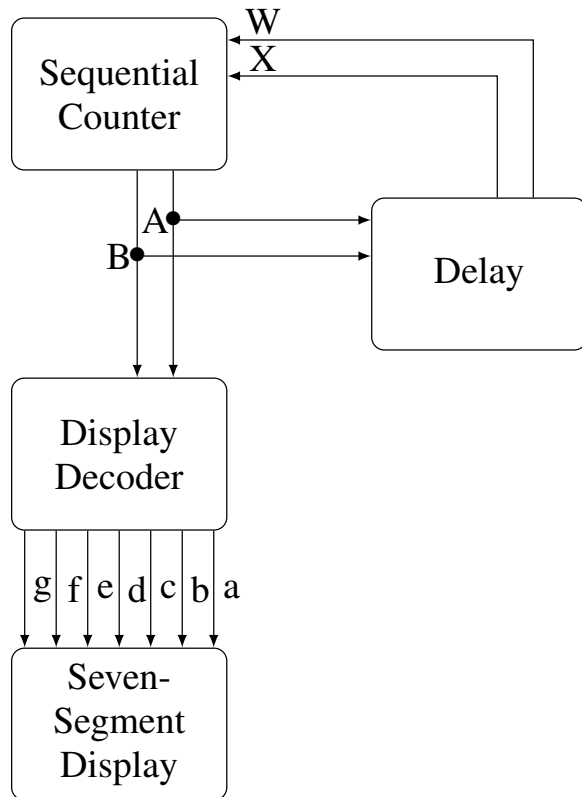

Fig. 4: The Synchronous counter with LED Display
1. Connect the Arduino, 7447, 7474 as per the details mentioned in Table 4 and Fig 4